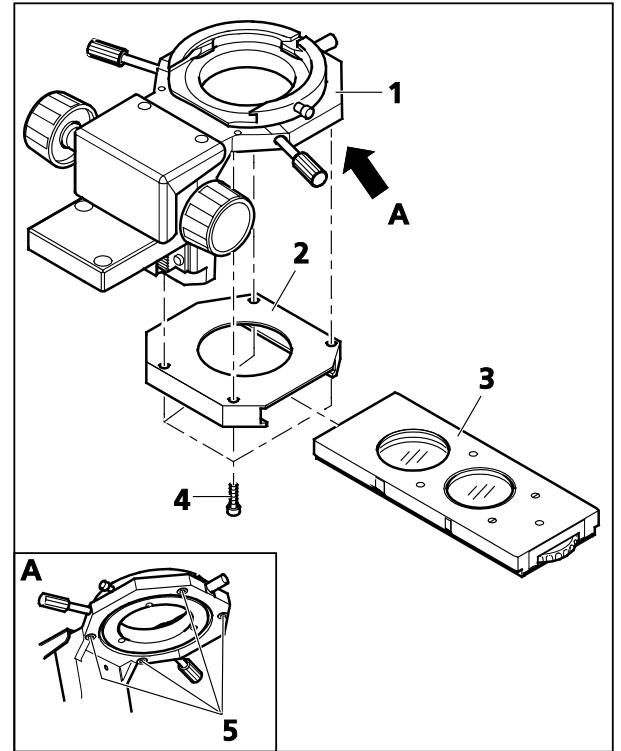

Figure 3-39 Installing the SÉNARMONT polarizer
- Screw the mounting frame (Figure 3-39/2) using four screws (Figure 3-39/4) to the lower side of the condenser carrier (Figure 3-39/1).
- Slide the Senarmont polarizer (Figure 3-39/3) into the guide of the mounting frame.